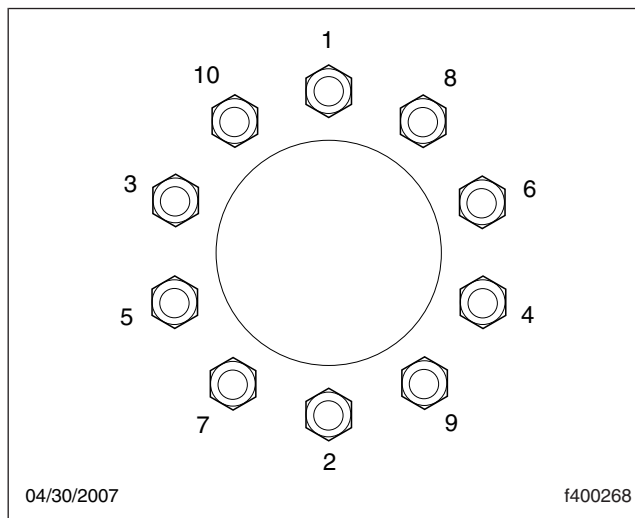

Fig. 20.3, Tightening Pattern, 10-Hole Wheels
- 4.3 Make sure all wheel nuts are tightened. If tightening is necessary, use the tightening pattern in **Fig. 20.3** to initially tighten the flange nuts to 50 to 100 lbf-ft (68 to 136 N-m). Then tighten the flange nuts to 450 to 500 lbf-ft (610 to 678 N-m).